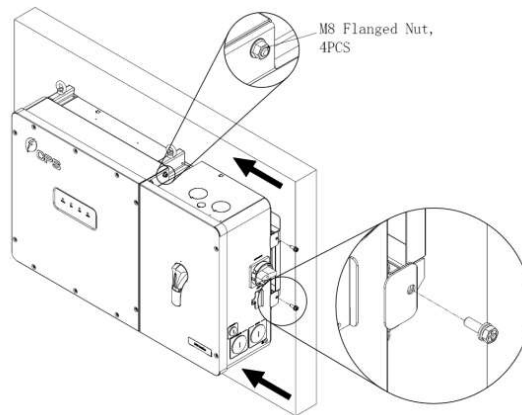

Figure 3-16 Installation of the Wire-box
- C. Connect the wire-box to the main enclosure, using the **M8 Flanged Nut** (4pcs) (torque: 110.6 in-lbs. (12.5 Nm)). Secure the wire-box to the bracket with **M6x18** combination screw (torque: 53 in-lbs. (6 Nm)) (**Figure 3-16**).